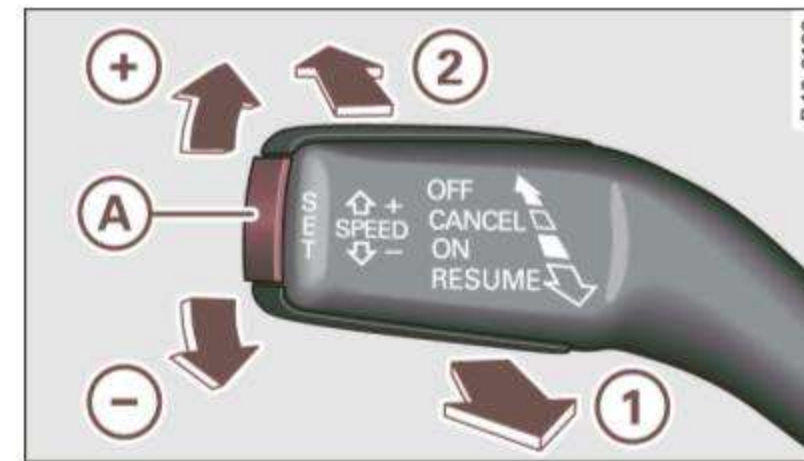

Fig. 67 Cruise control system controls
- Pull the lever to position **1** ⇒ fig. 67 to switch the system on.
- Press lever up towards the **+** ⇒ fig. 67.
- Press lever down towards the **-** ⇒ fig. 67.
The desired speed is increased by about 2 mph (2 km/h) by briefly pressing the lever upwards towards ⇒ fig. 67 (+).
The desired speed is decreased by about 2 mph (2 km/h) by briefly pressing the lever downwards towards ⇒ fig. 67 (-). ■
- Press the lever towards (2) (not latched) ⇒ page 86, fig. 67.
If no desired speed was stored when the system was temporarily switched off, you can store a new desired speed as follows: Drive at the desired speed and briefly press button ⇒ page 86, fig. 67 (A) (SET).
- Press lever into position (2) (latched) ⇒ page 86, fig. 67.